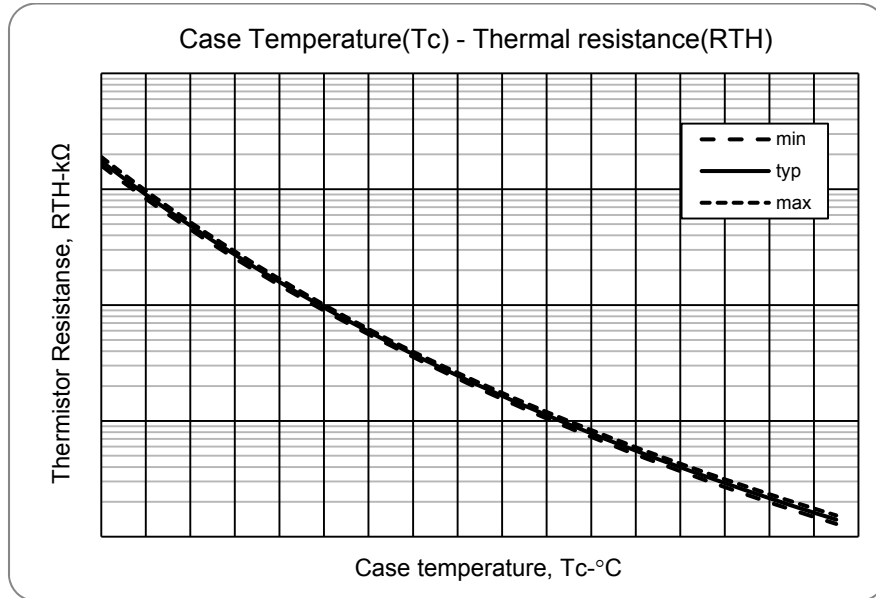
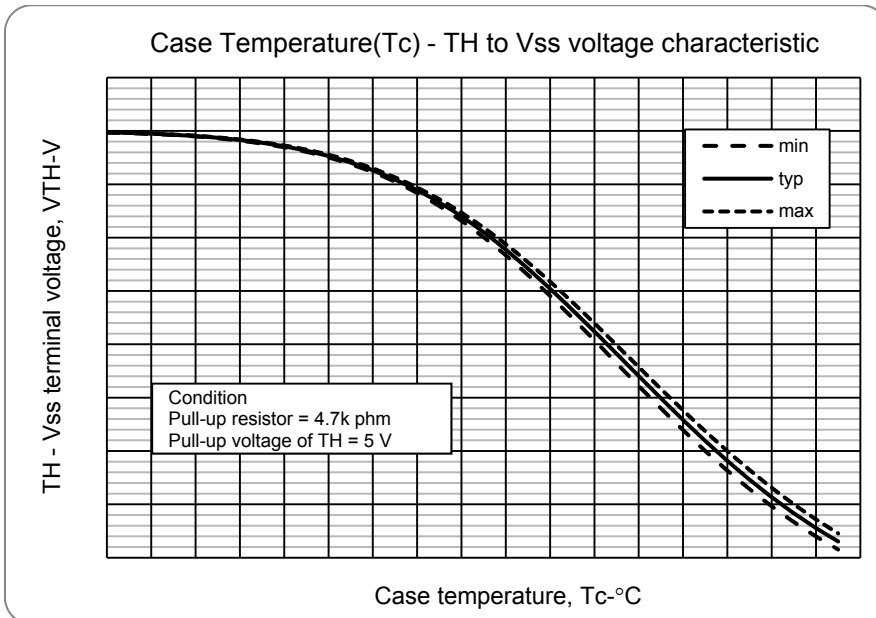

Fig. 10 Variation of thermistor resistance with temperature
Fig. 11 Variation of temperature sense voltage with thermistor temperature
4. Inside the IPM, a thermistor used as the temperature monitor for internal substrate is connected between V_{SS} terminal and TH terminal, therefore, an external pull up resistor connected between the TH terminal and an external power supply should be used. The temperature monitor example application is as follows, please refer the Fig.10, and Fig.11 below.